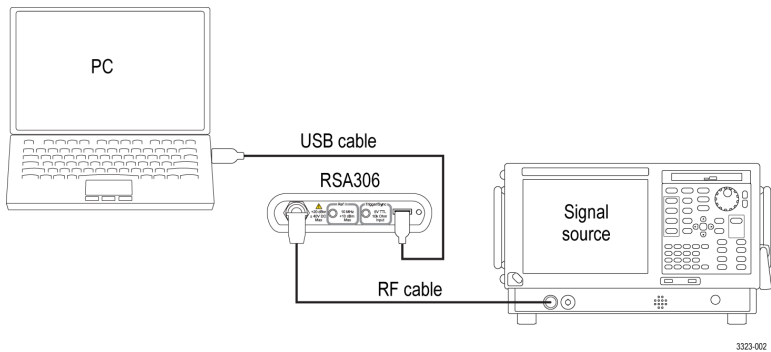

Figure 2: Instrument connections
2. Connect an RF cable between the RSA306 input and the signal source. (See Figure 2.)